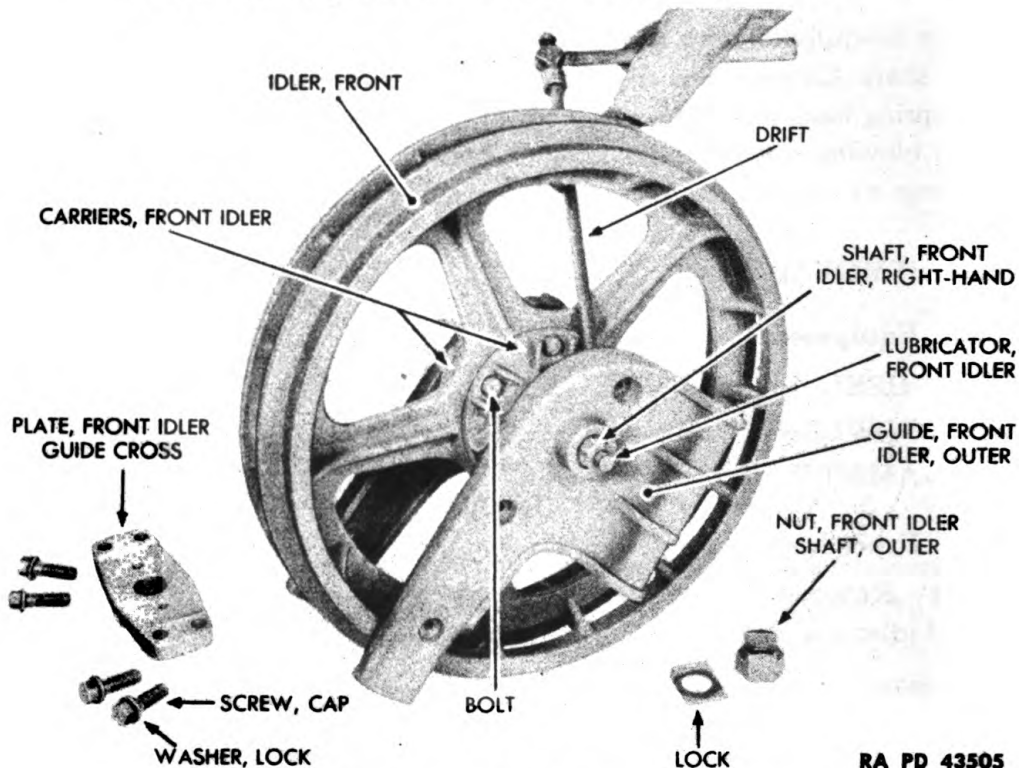

Figure 150 — Right Front Idler Disassembly
- (1) REMOVE RIGHT FRONT IDLER GUIDE CROSS PLATE (fig. 150).
- (3) REMOVE RIGHT INNER AND OUTER FRONT IDLER GUIDES (fig. 150).
- (4) REMOVE FRONT IDLER CARRIERS WITH BUSHINGS (fig. 150).
- (5) LIFT RIGHT FRONT IDLER SHAFT FROM FRONT IDLER (fig. 150).